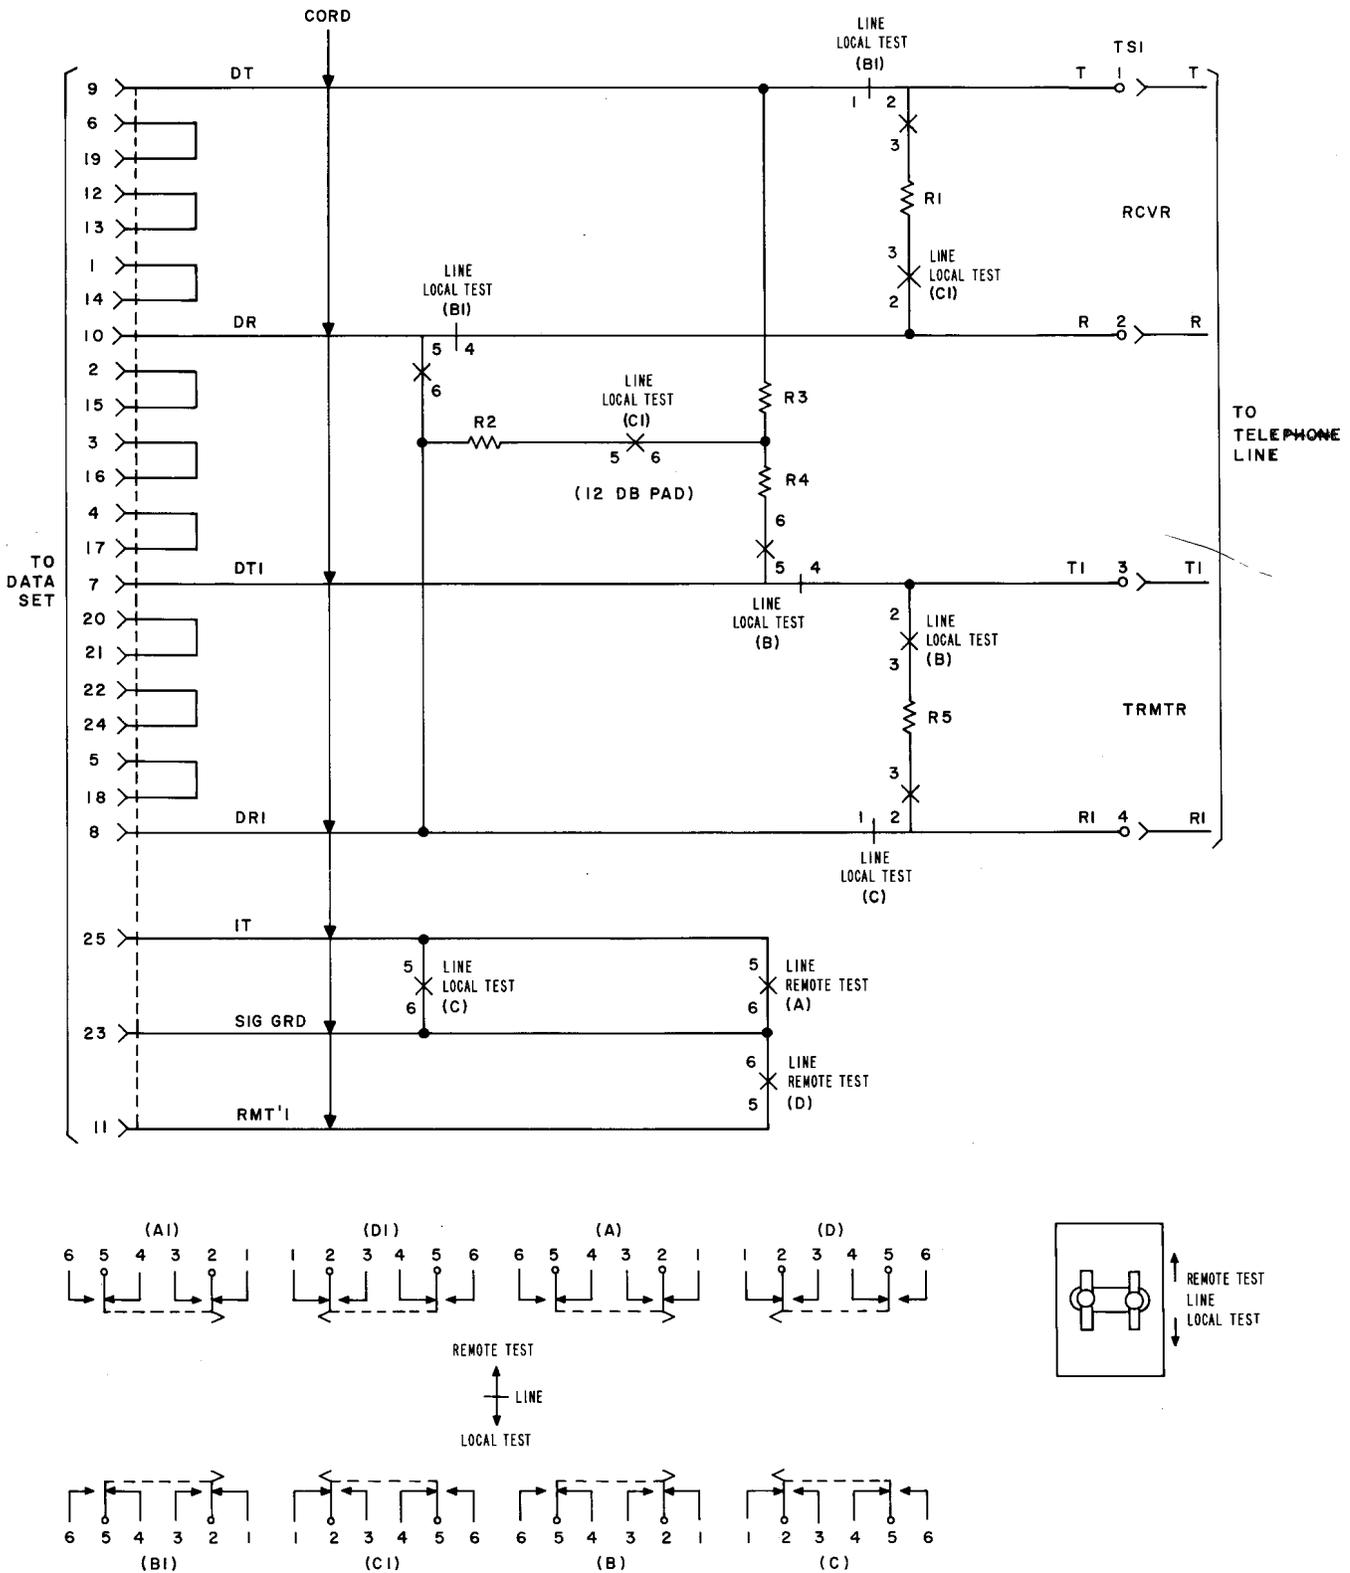

Fig. 74A — 4B1 Data Unit, Circuit Sketch
13.05A Description, operation, and ordering information may be obtained from the section entitled 4B1 Data Unit, Description and Operation (590-100-104). The 4B1 circuit sketch is illustrated in Fig. 74A.